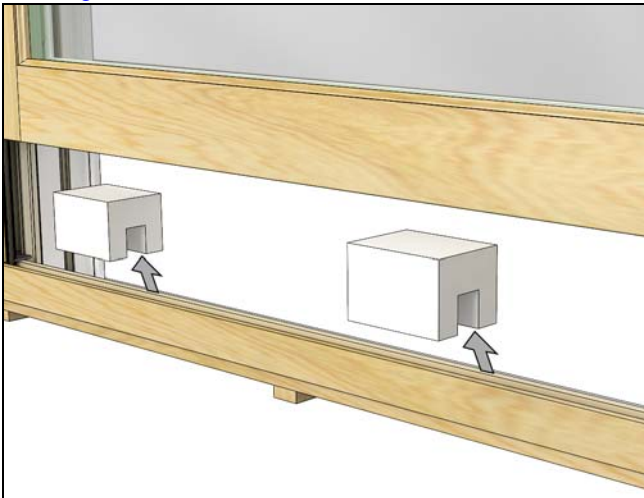

Figure 9
5. Raise bottom sash and remove foam blocks from sill. See Figure 9.